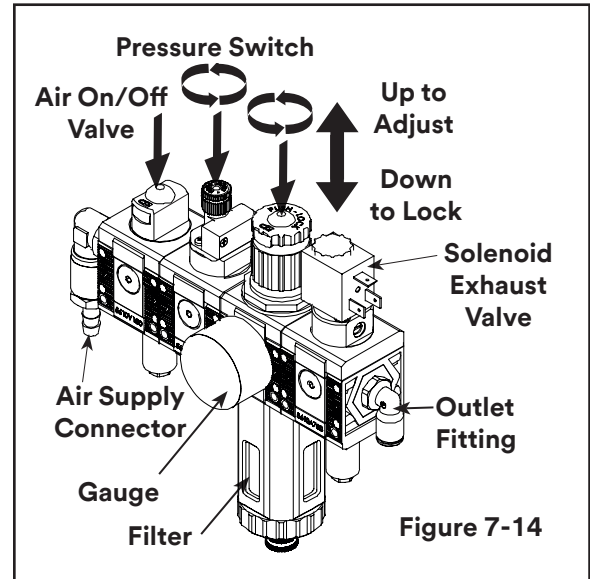

Figure 7-14
See Specifications for compressed air supply needs. As shown in **Figure 7-14**, an on/off valve, pressure switch, pressure regulators, and filter are provided to service the air supply.
2. Main Air “On/Off” Valve/Pressure Regulator/Filter/Exhaust Valve – Figure 7-14